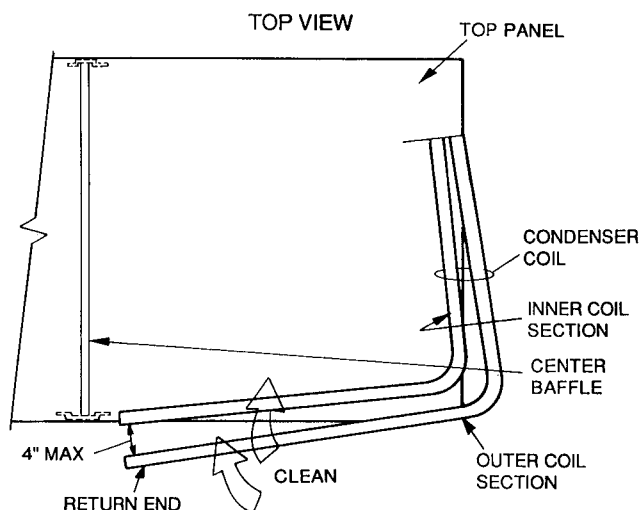

Fig. 26 — Separating Coil Sections
4. Remove device holding coil sections together at return end of condenser coil. Carefully separate the outer coil section 3 to 4 in. from the inner coil section. See Fig. 26.